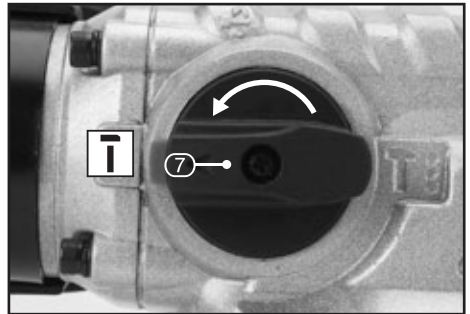

FIG.8
9.4 CHISELLING (NON-ROTATING) – FIGS.8 – 9
- Rotate the side drilling/chiselling selector (7) to the hammer setting.
- Switch the rotary/hammer selector (5) to the drill and hammer setting.